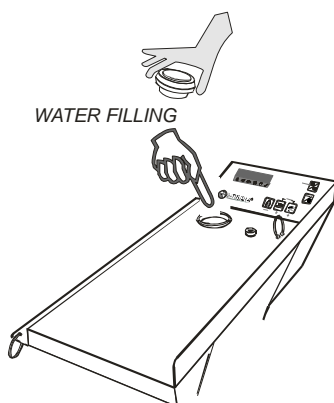

Fig. 3
4. Take off the water plug of the Texi Smart S+B (fig. 3), and fill the water tank (roughly 1 liter). Once this has been done, replace the water plug.
If the icon  turns on every now and then, this indicates that the Texi Smart S+B is pumping water into the boiler. It is therefore important to always fill the water tank (fig. 3).